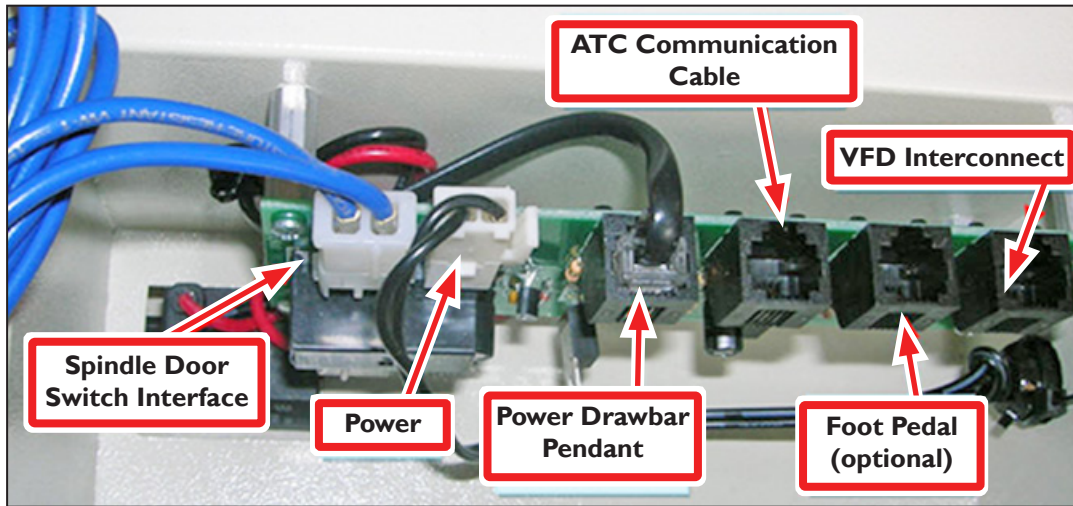

Figure 20
4. Connect the blue wires to the inside of the Power Drawbar control box (see **Figure 20**).